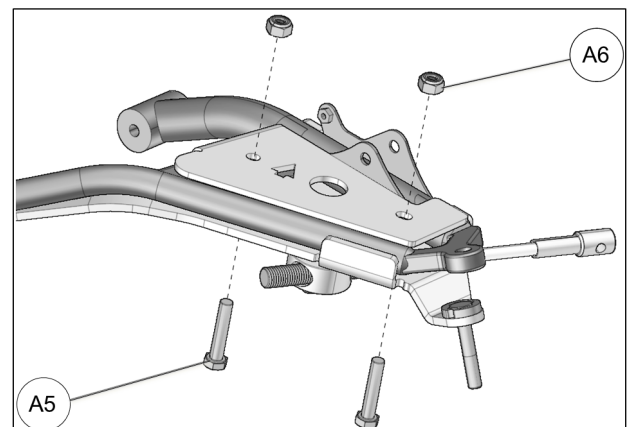

Fig. 20
- Insert the M10x50 mm bolts (A5) through the bottom and secure the two parts together with the nuts (A6) provided. Tighten assembly to 50 N•m [37 lb•ft] of torque. See Fig. 20